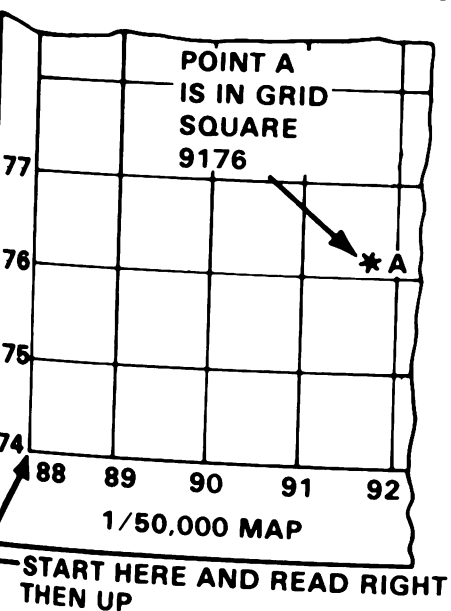

Figure 3. Location on a grid square.
1. First, locate the grid square in which the Point is located (the Point should already be plotted on the map) (fig 3).